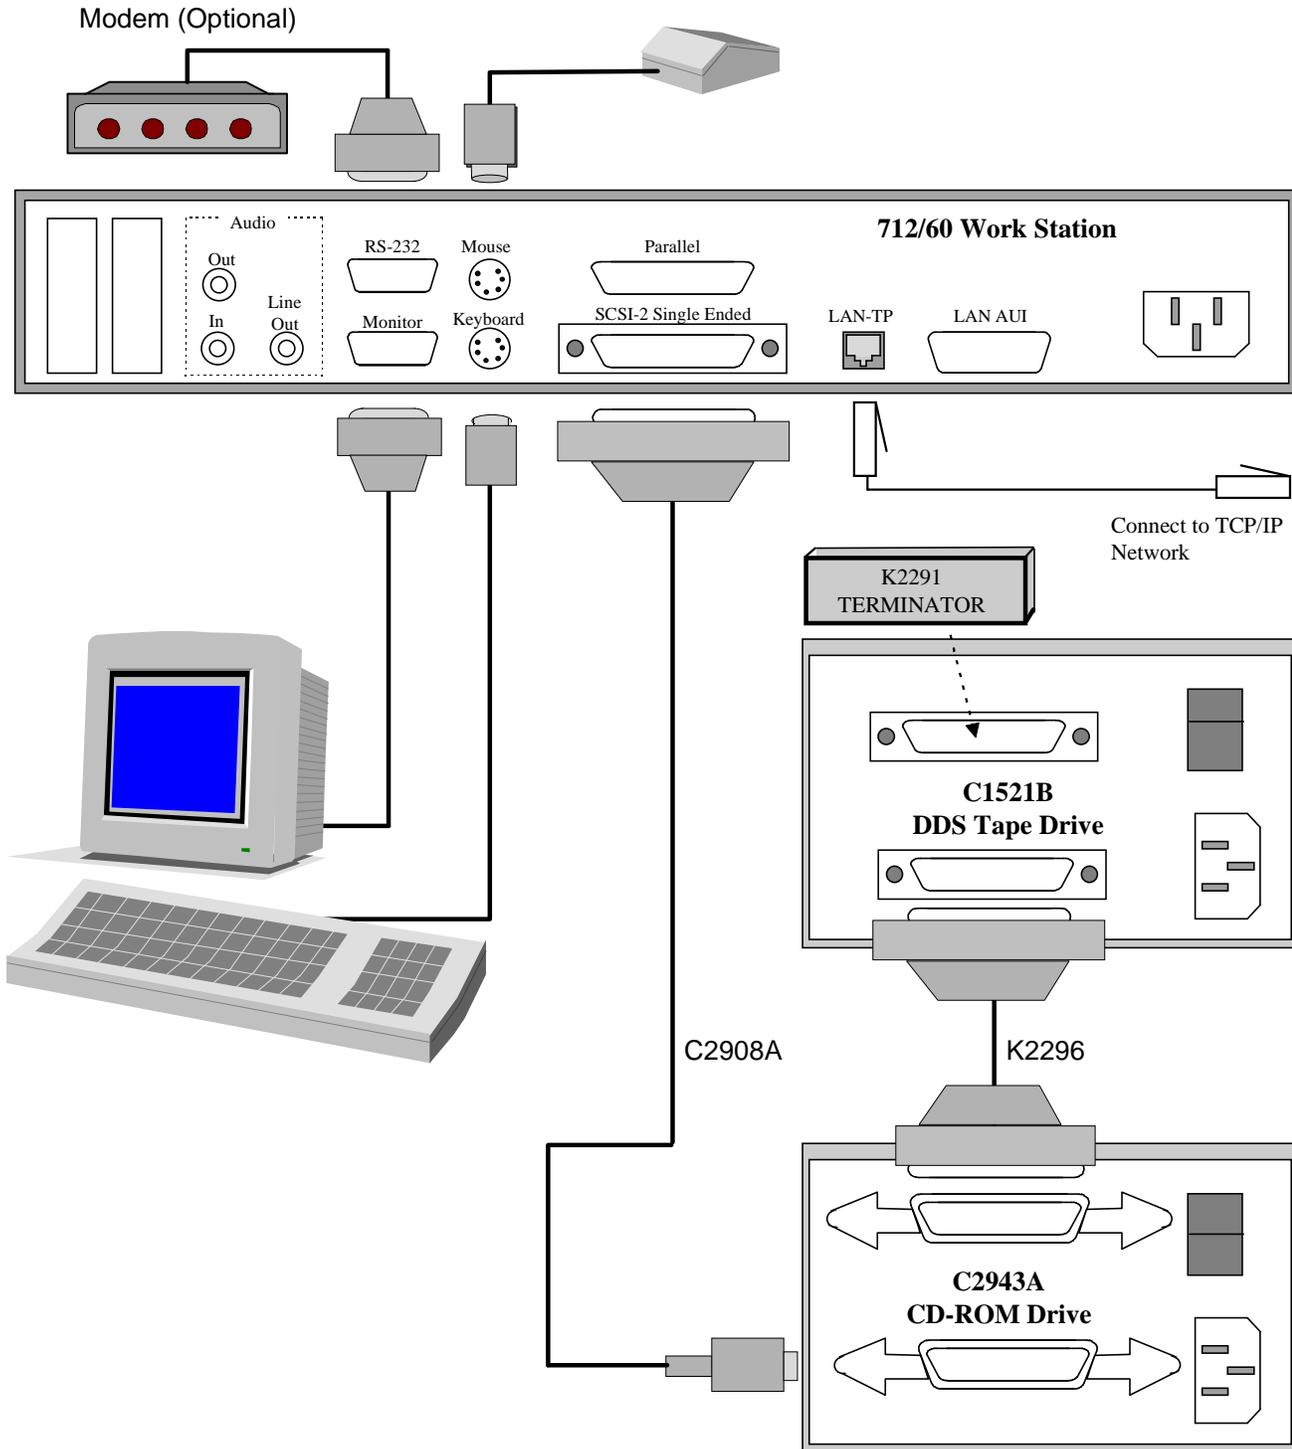

Figure 2 - 712/60 Interconnect Diagram
1. Hook- up the Workstation using the cabling diagram shown in Figure 2.